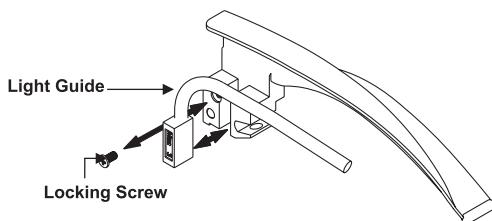

Fig 4
In the Gime Green blades the fiber optic light blades stems are removable and are interchangeable with a same size blade. By unscrewing the locking side screw as shown in Fig. 4, the light guide can be disengaged and removed for cleaning, repairs or replacement. The removable light guide also has the added advantage that it enables quicker and cheaper repair to be performed should the fibers break due to rough use, or need replacing due to natural wastage.
1. Remove locking screw with a screw driver as show in Fig 4.